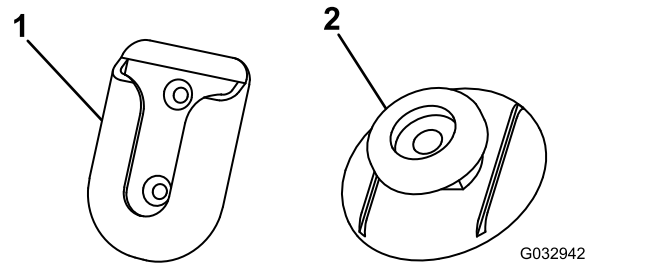

Figure 29
- Clean the back of the swivel mount (Figure 29) with the alcohol wipe and then dry it.
- Remove the backing from 1 side of the adhesive and apply it to the back of the mounting tab (Figure 29).